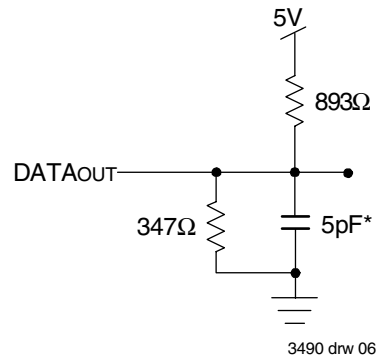

Figure 2. Output Test Load
- Transition is measured 0mV from Low or High impedance voltage with the Output Test Load (Figure 2).
1. Transition is measured $\pm 200mV$ from Low or High-impedance voltage with the Output Test Load (Figure 2).
- Transition is measured 0mV from Low or High-impedance voltage with the Output Test Load (Figure 2).